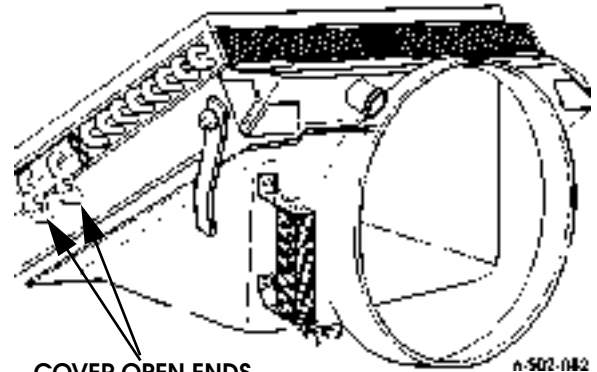

Figure 2-52: Covering Open Ends of Oil Cooler Lines
11. Disconnect oil lines at transmission and power steering coolers. Cap lines to prevent dirt entry Figure 2-52.